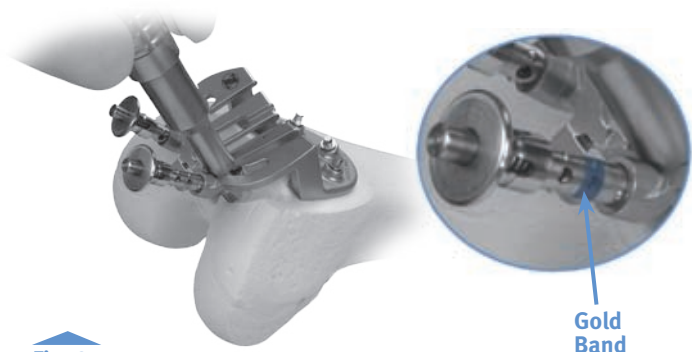

Fig. 37
- Pull up until stop is reached and release the button. ("Mill" position – The gold band should be visible above guide) (Fig. 37).